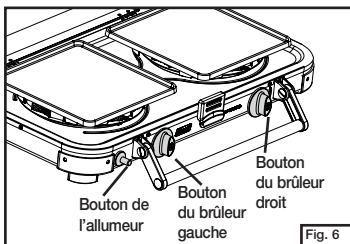

Fig. 6
- Control Knob Identification (Fig. 6)